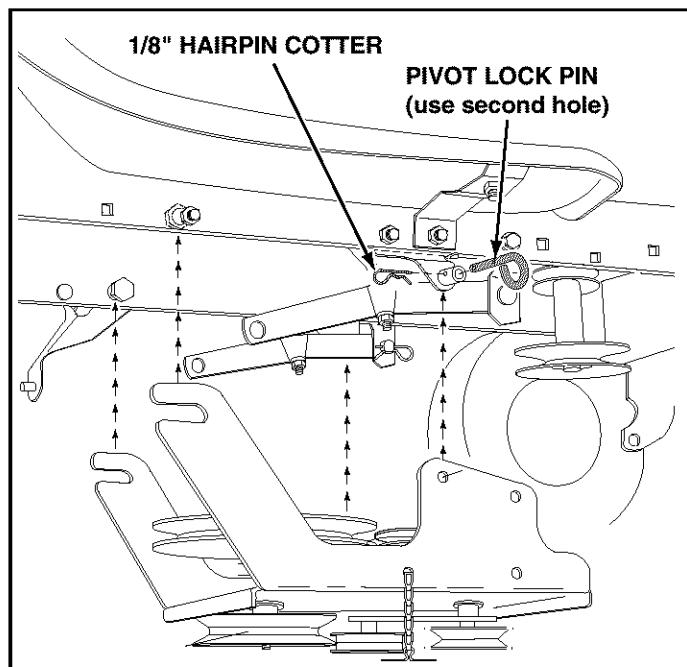

FIGURE 13
- Attach the clutch/idler assembly to the tractor frame as follows. Hook the assembly's notched arms onto the two shoulder bolts you assembled to the inside of the tractor frame. Lift the front of the assembly and attach it to the R.H. and L.H. hanger brackets using two pivot lock pins and 1/8" hairpin coppers. See figure 13.